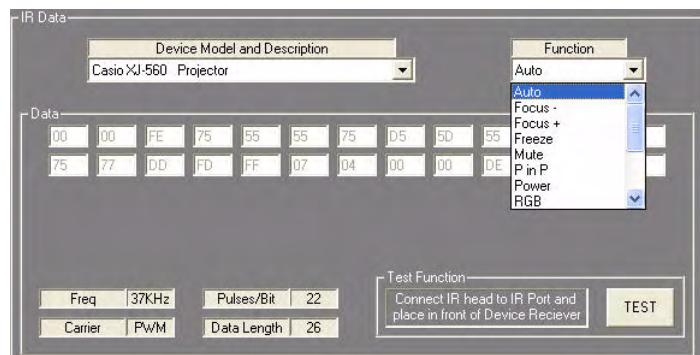

FIG. 57 AMX Library Files dialog - Selecting a Function for testing
- In the AMX IR Libraries dialog, select the function to test from the *Function* drop-down menu (FIG. 57).